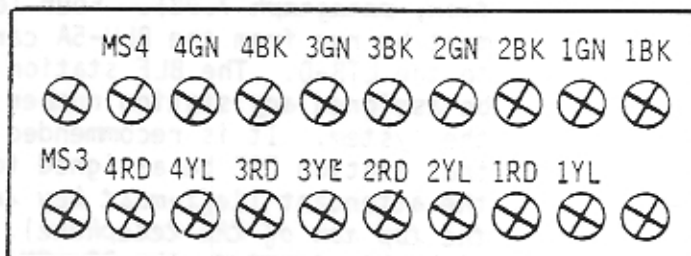

FIGURE 4B - LTB-D TERMINAL LAYOUT
- i) Four LTB-D Line Terminal Board assemblies (figure 4B) are provided with the basic KSU. 4 LTB-D's will provide the connection terminals for all stations (telephones and boxes) in the system. The quads from the stations should be terminated on the LTB-D's as follows (see table 3):